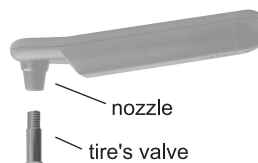

figure 1
3. Place the instrument's nozzle onto the tire's valve (refer to figure 1)